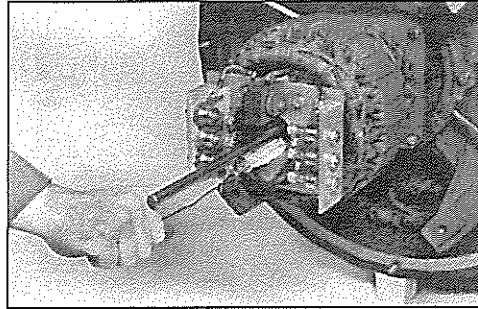
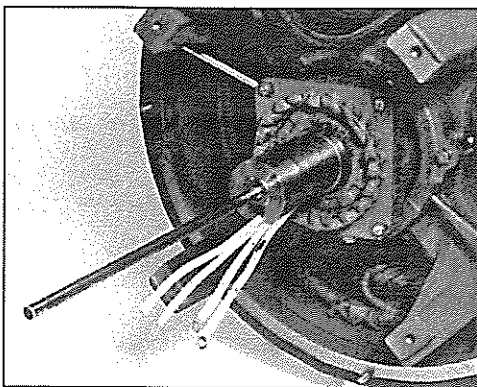

Figure 6-71
Figure 6-70
1. Attach a wire to the main rotor leads and feed the wire through the armature bore and out the lead hole in the aluminum standoff plate. On larger exciters, it will be helpful to install a guide pin in the end of the shaft to support the armature while fishing the rotor leads through (figure 6-70). Align the key in the armature bore to the keyway in the shaft. Slide the armature on the shaft while feeding the main rotor leads through the lead hole in the aluminum standoff plate (figure 6-71).